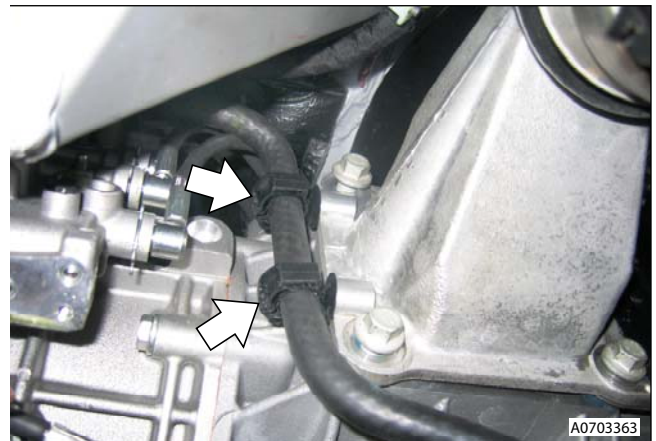

Figure 2
19. Release reservoir hose from mounting bracket (Clips x2) (see Figure 2).